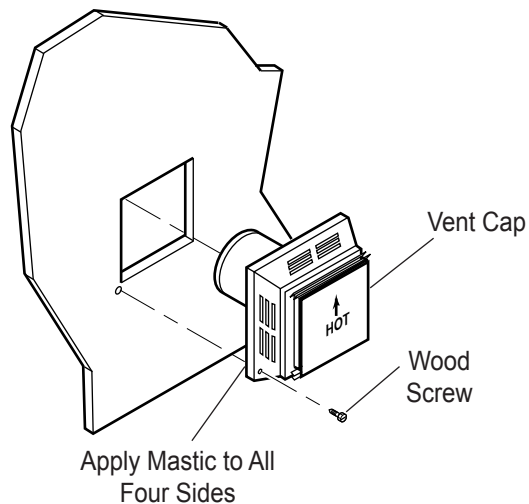

Figure 14 - Installing Horizontal Vent Cap
4. Apply a bead of non-hardening mastic around the outside edge of vent cap. Position the vent cap in the center of hole on the exterior wall with the word "UP" on the vent cap facing up. Insure proper clearance of 1" to combustibles is maintained. Attach the vent cap with four wood screws supplied. *See Figure 14.*